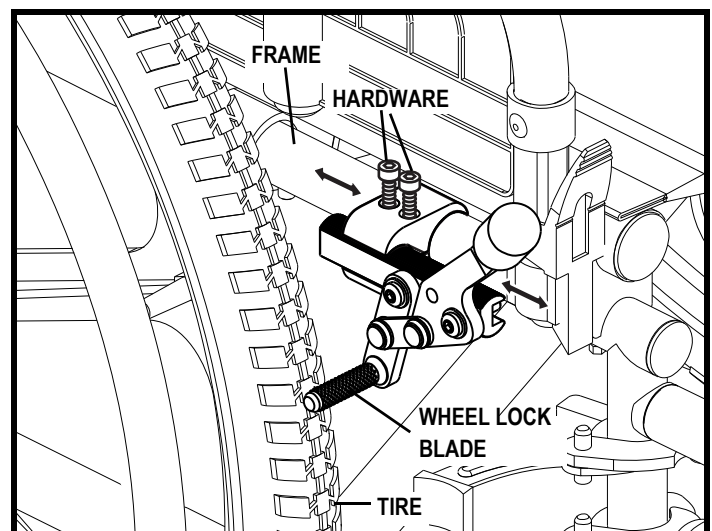

Figure 27. Manual Wheel Lock Adjustment
2. Loosen the hardware that fastens the wheel lock to the frame. See figure 27.